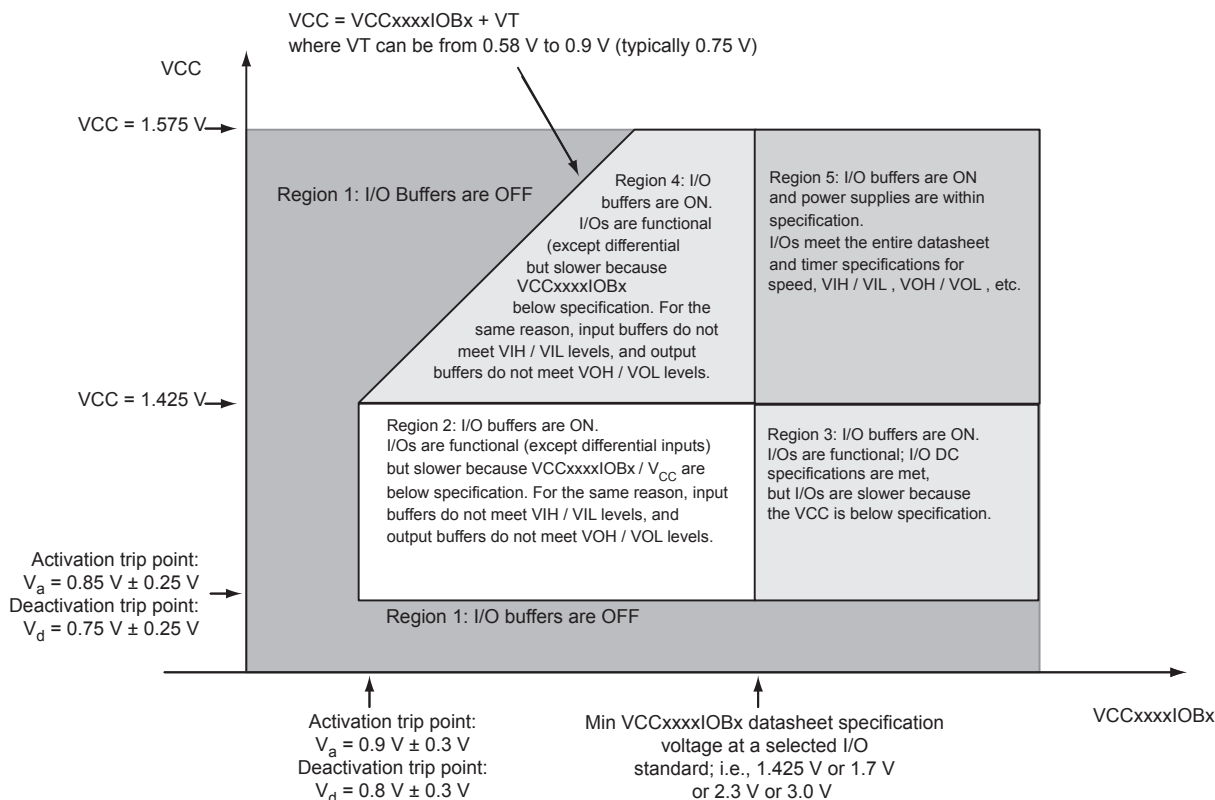

**Figure 2-1 • I/O State as a Function of  $VCC_{xxxxIOBx}$  and VCC Voltage Levels**
Sophisticated power-up management circuitry is designed into every SmartFusion cSoC. These circuits ensure easy transition from the powered-off state to the powered-up state of the device. In addition, the I/O will be in a known state through the power-up sequence. The basic principle is shown in Figure 2-1 on page 2-6.
1. VCC and VCCxxxxIOBx are above the minimum specified trip points (Figure 2-1 on page 2-6).
The Microsemi SoC Products Group recommends using monotonic power supplies or voltage regulators to ensure proper power-up behavior. Power ramp-up should be monotonic at least until VCC and VCCPLLx exceed brownout activation levels. The VCC activation level is specified as 1.1 V worst-case (see Figure 2-1 on page 2-6 for more details).